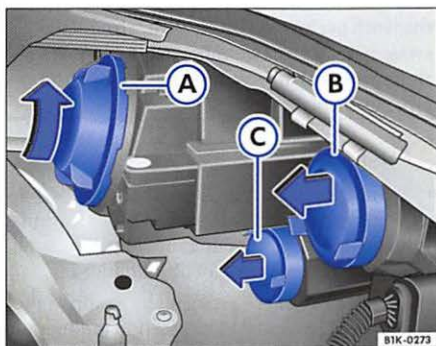

Fig. 36 Cover (A) for low beam, cover (B) for high beam and side light, cover (C) for the turn signal
- Turn the cover ⇒ fig. 36 (A) to the left (arrow) and remove the cover.